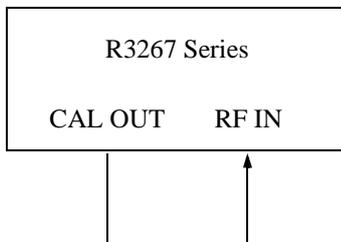

Figure 6-1 Setup of Phase Error Measurement Accuracy for GSM
1. Connect equipment as shown in Figure 6-1.